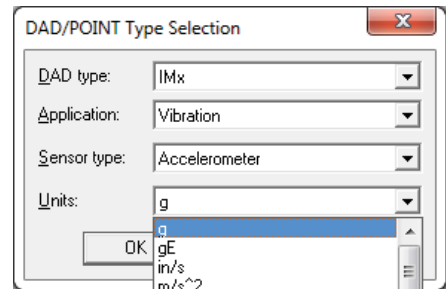

Fig. 4. Select the units.
- 4 Select the **Units** according to your needs and unit system used (→ **fig. 4**). Once the selections have been made, click **OK**.